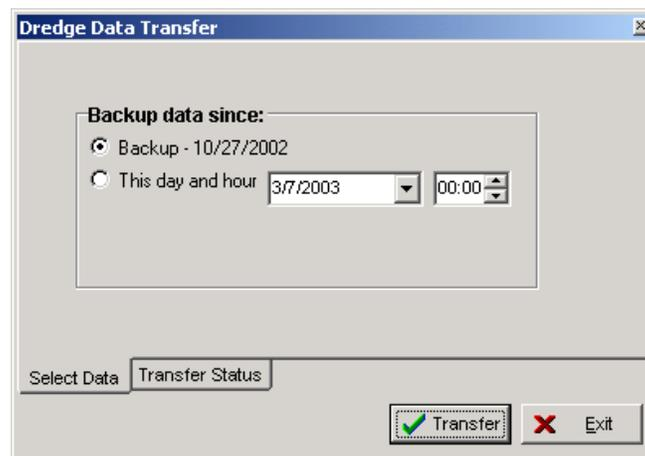

Figure 3.3 Data Transfer Date window.
5. Click **Copy Data To Zip**. The Dredge Data Transfer Window will now appear as in Figure 3.3.
1. Click **Copy Data To Zip** in the control center window. The Data Transfer Date window will now appear as shown in Figure 3.3.